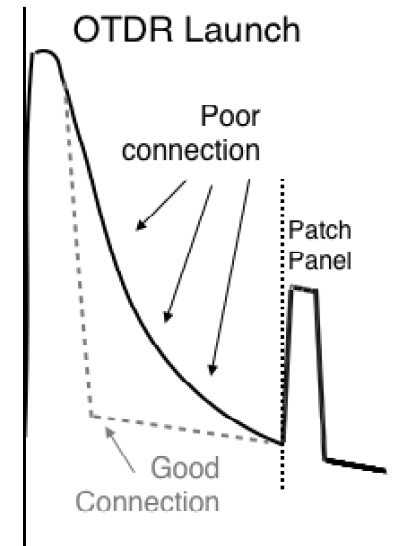

Figure 3. OTDR interface visual. Poor vs. good launch.
Figure 3 illustrates a launch showing a poor OTDR connection (black) vs. one with a good connection (red). The good launch recovers much quicker to backscatter leaving clear fiber slope prior to the fusion splice. The poor launch (black line) rolls off due to high reflectance and doesn't recover to backscatter before it arrives at the first connection.
- C. OTDR interface: not measurable but use Figure 3 visual as a guide.